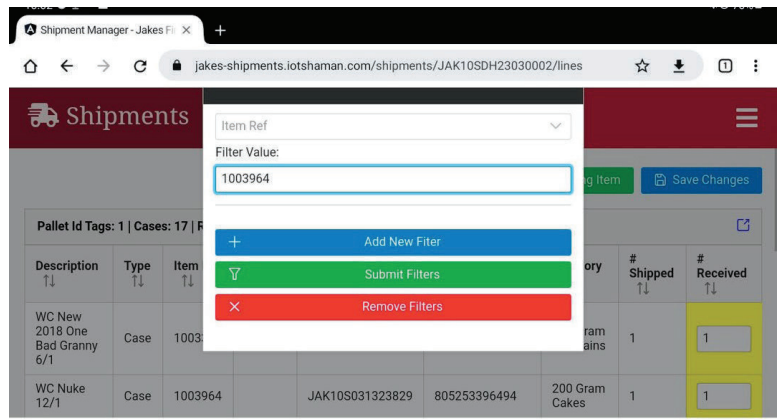

Figure 9
- e. Select SUBMIT FILTER (Figure 9)